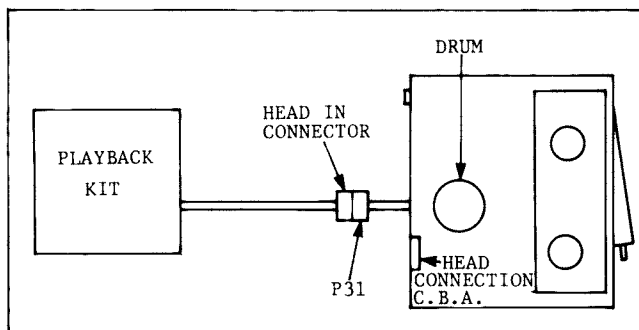

Fig. 1. ADJUSTMENT CONDITION
1. Connect the VTR to the PLAYBACK KIT by the HEAD AMP CONNECTOR, as shown in Fig. 1.